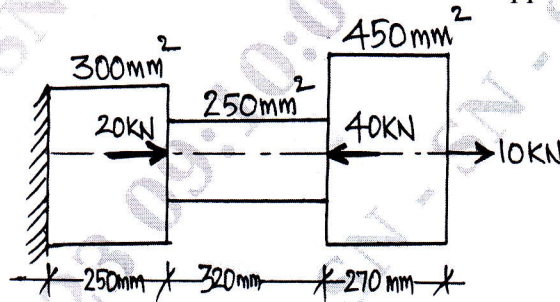

Fig Q2(c)
- c. A stepped bar with 3 different portion has fixed support at one of its ends. The stepped bar is subjected to forces as shown in Fig Q2(c). Determine the stresses and deformation induced in each portion. Also find the net deformation induced in the stepped bar. Take  $E = 200 \text{ GPa}$ .